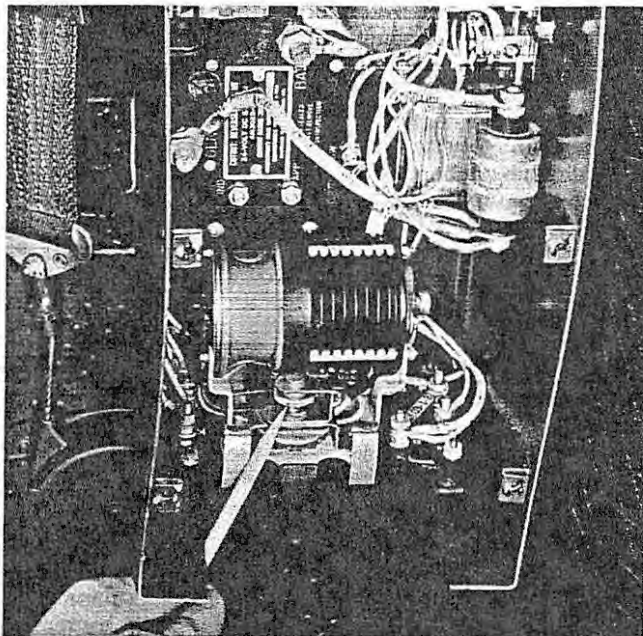

Figure 7-2. Voltage Regulator Adjustment
d. If voltmeter does not indicate between 27.7 and 28.0 volts, turn rheostat (figure 7-2) one notch at a time (clockwise to increase and counterclockwise to decrease voltage) until proper voltage is obtained.